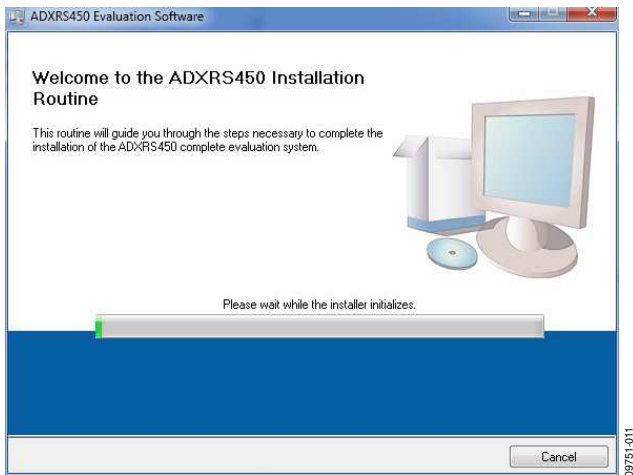

Figure 2. ADXRS450/ADXRS453 Evaluation Software Installation Welcome
1. To run the software installation routine, double-click the **LabVIEW Run Time Install.exe** file located in the **LabVIEW Run Time Installation** folder on the included CD. The window shown in Figure 2 is displayed. Depending on your version of Windows®, you may be prompted to allow the program to access your computer's settings.